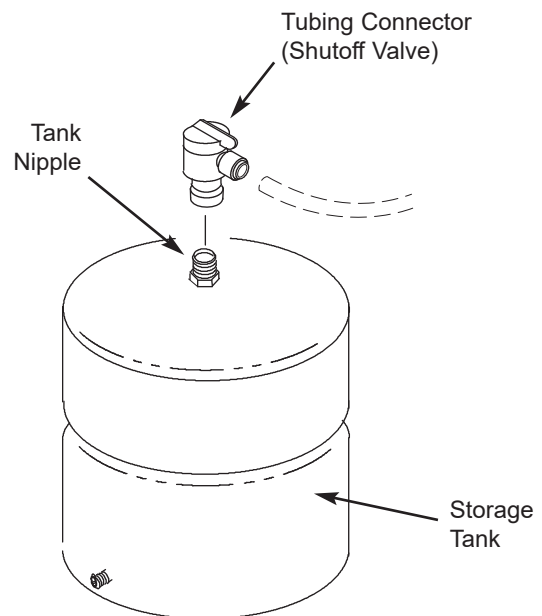

FIG. 13
1. Apply thread sealing tape (2 wraps clockwise) to the threads on the nipple at the top of the tank. See Fig 13.
2. Locate the tubing connector (shutoff valve). See Fig 13. Tighten the tubing connector onto the tank nipple 7-8 full turns, being careful not to cross thread or overtighten.